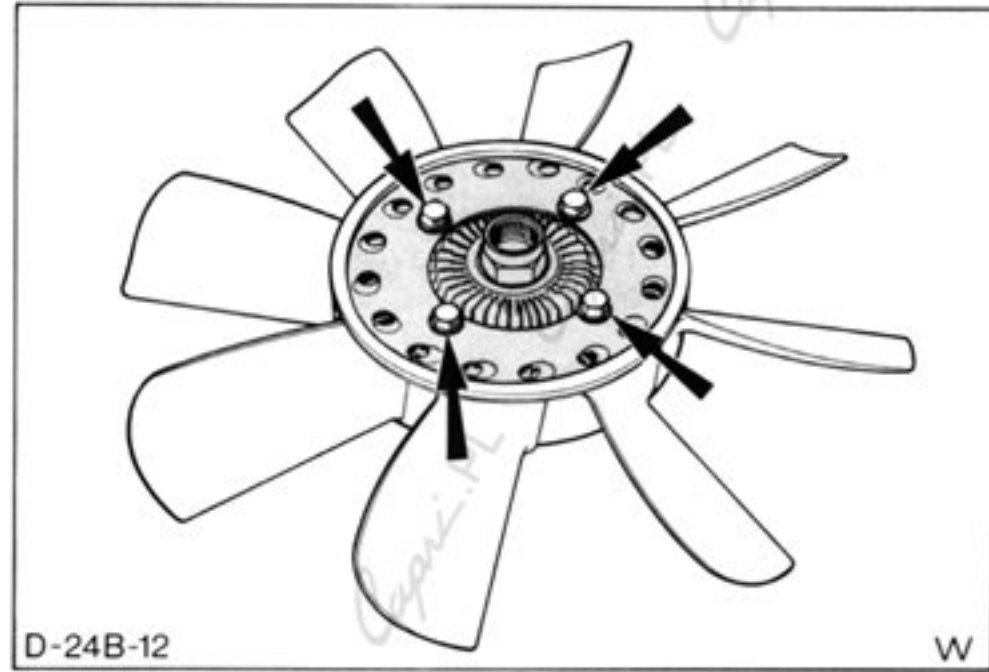

Fig.14. Fan to clutch assembly retaining bolts.
4. Position fan blades on clutch and tighten all four retaining bolts, Fig.14, to specified torque, refer to Technical Data. Under no circumstances should specified torque figures be exceeded as fan clutch housing is an aluminium casting.